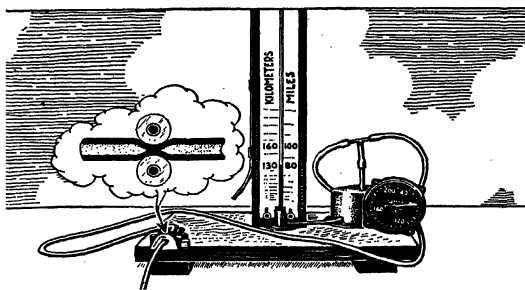

FIG. 41.—Kollsman air-speed test stand.
**Apparatus for Tests in Workroom.**—The Kollsman air speed indicator test stand is seen in Fig. 41. It has a liquid manometer and a "roller pump" on a base. The pump is very simple. It has two rollers between which a rubber tube is pulled when the parts are turned. This puts pressure in the tube. In addition there are, as in the apparatus for testing on the airplane, a T connection and three rubber tubes, one of which goes to the manometer. Of the others, one goes to the instrument to be tested and one is used with the pump.